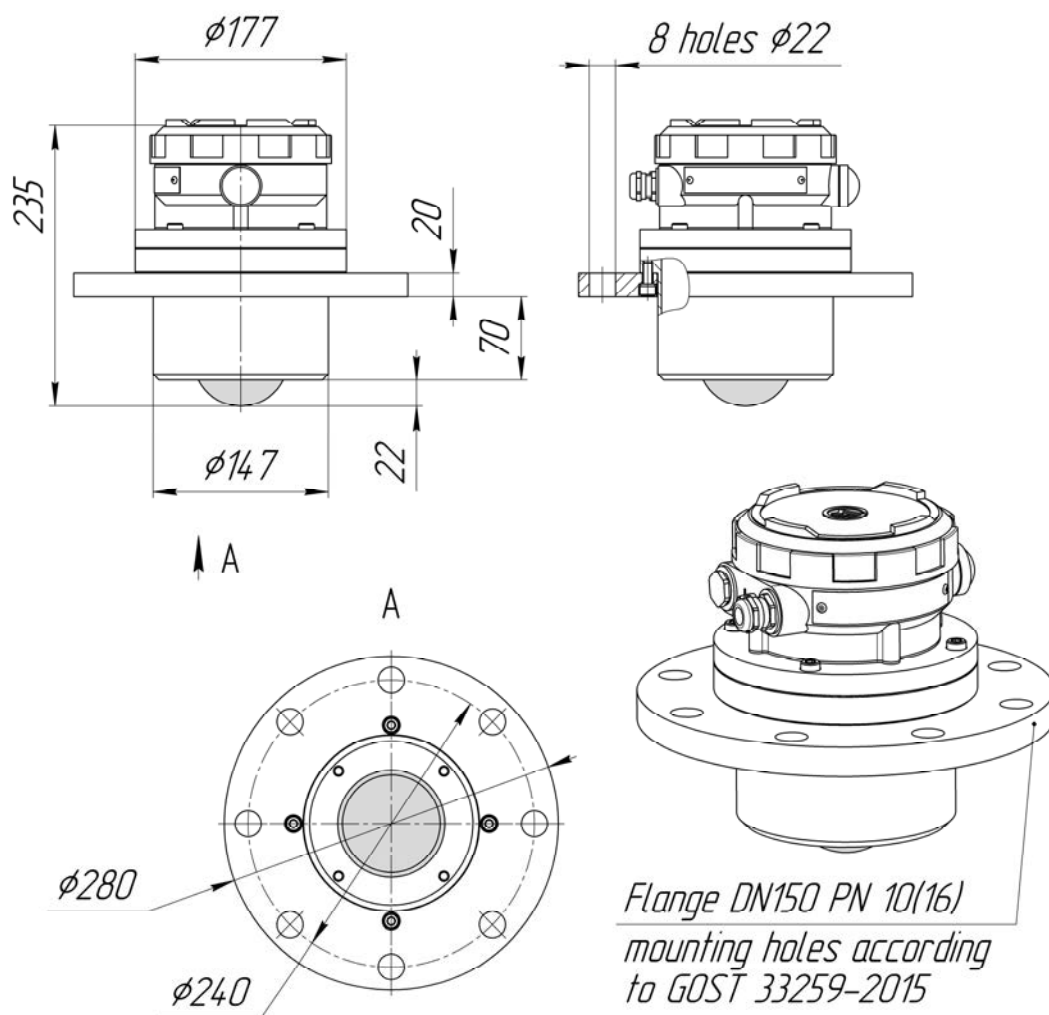

Fig. 9. Level transmitter with upper mounting flange DN150 for installing the level transmitter with the antenna immersed inside the tank.
ULM-3D-64 level transmitter can be equipped with flanges of various designs; it should be specified when placing an order. The standard delivery for the level transmitter option with an antenna immersed inside the tank (recommended) includes a flange DN150Ru10(16) or DN125Ru10 in accordance with GOST 33259-2015 (Fig. 9). In this case, the diameter of the hole in the tank lid (silo roof), necessary for measuring the level, depends on the thickness of the roof and is selected based on the free propagation of the measuring beams of the level transmitter in a solid angle of 100° , but no less than 150 mm.